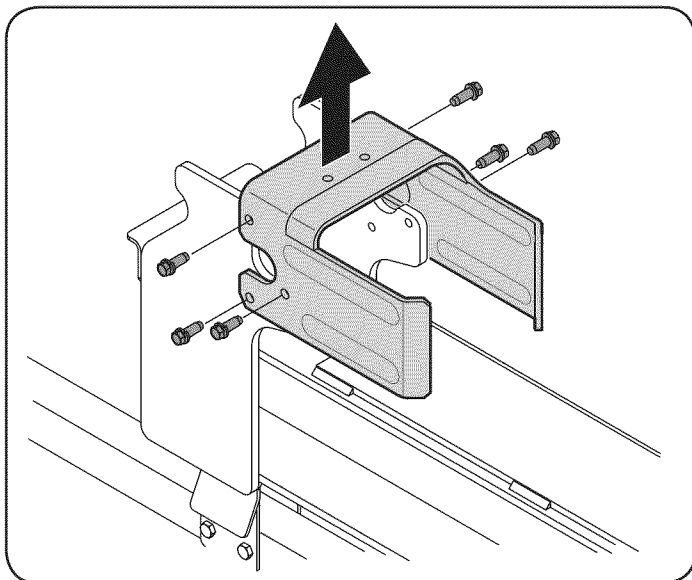

Figure 4
16. Disconnect the dislodger from the beam weld bracket by removing the six hex screws. See Figure 4.
19. Attach the dislodger over the wedge assembly and secure it to the weld brackets with the previously removed hex screws. See Figure 4.